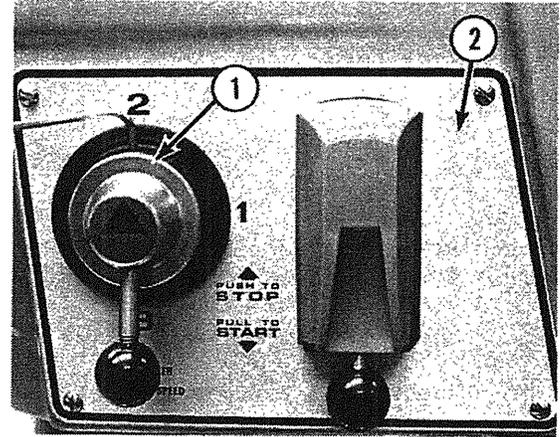

Fig. 5-1
- A. Position gear selector in second speed and loosen set screw (1, Fig. 5-1). Then remove shifter handle.
- B. Remove four screws and remove switch plate (2, Fig. 5-1).